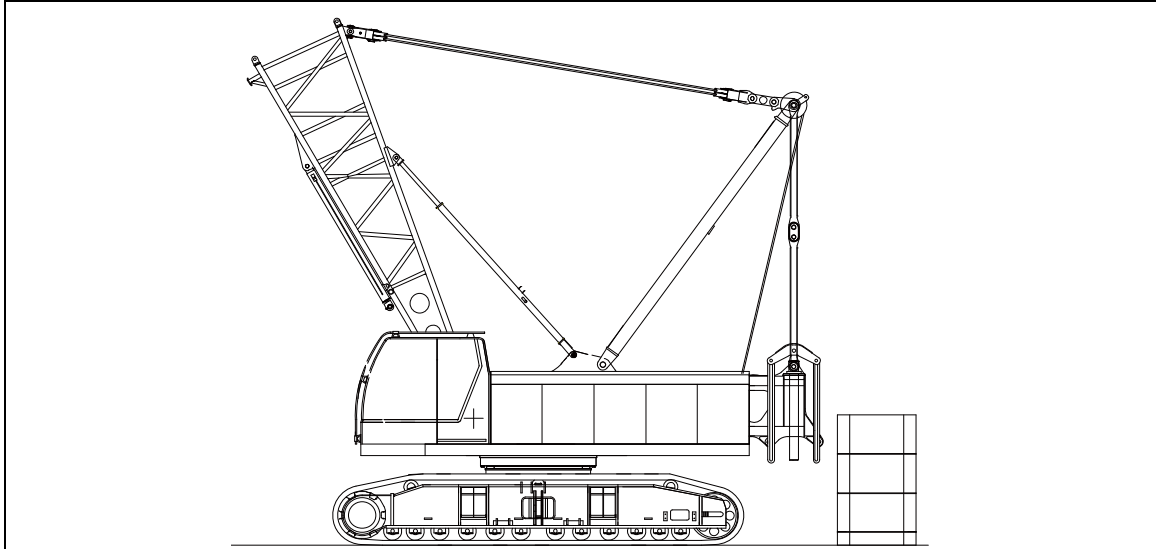

Figure 5-32 Moving basic machine
- a) Move basic machine until the axes of slewing table in longitudinal direction, traveling direction and central line of counterweight are aligned with each other. See the figure 5-32.